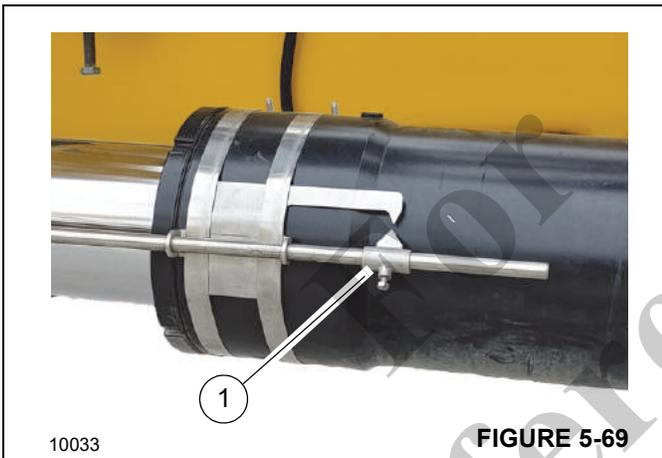

FIGURE 5-69
- If stowing an optional hydraulic boom extension, make sure the angle indicator (1, Figure 5-69) is aligned. If the arrows are not aligned, adjust the boom extension offset as needed to align the arrows. For more information, see *Offsetting the (Optional) Hydraulic Boom Extension*, page 5-57.